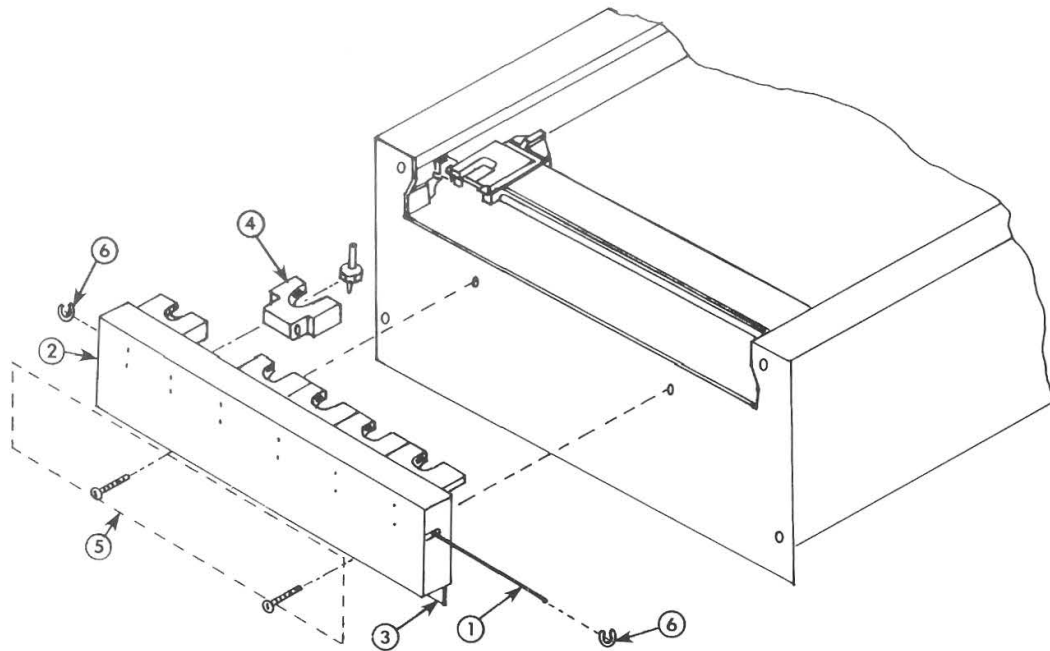

FIGURE 4-10
A. PEN CHANGER ASSEMBLY DMP-800 (See Figure 4-10)